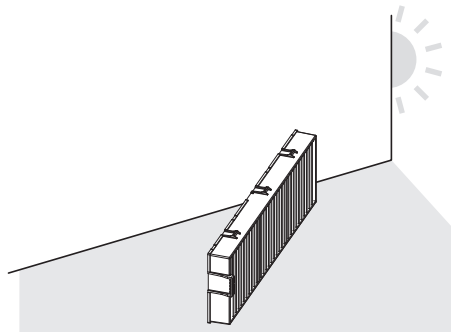

Fig. 2
3) Remove the air filter unit. (Fig. 2)
2) Dry the air filter unit. (Fig. 2)